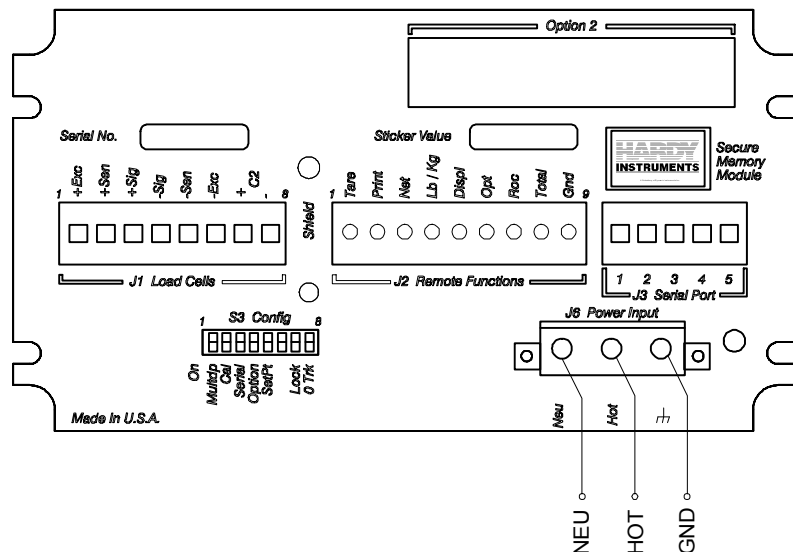

FIG. 3-6 POWER WIRING DIAGRAM
- Step 4. To connect power to the controller, install a 3-wire, minimum of a 14 AWG power line to the 3-pin terminal block connector. (See Fig. 3-6)